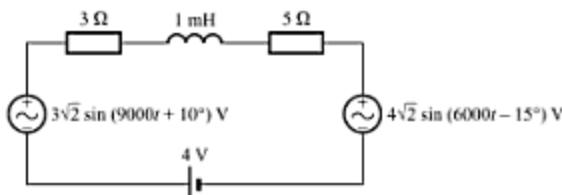

Fig. C-64
- C-95. Use superposition theorem to find the average power absorbed by the 5- $\Omega$  resistor in the circuit shown in Fig. C-64.